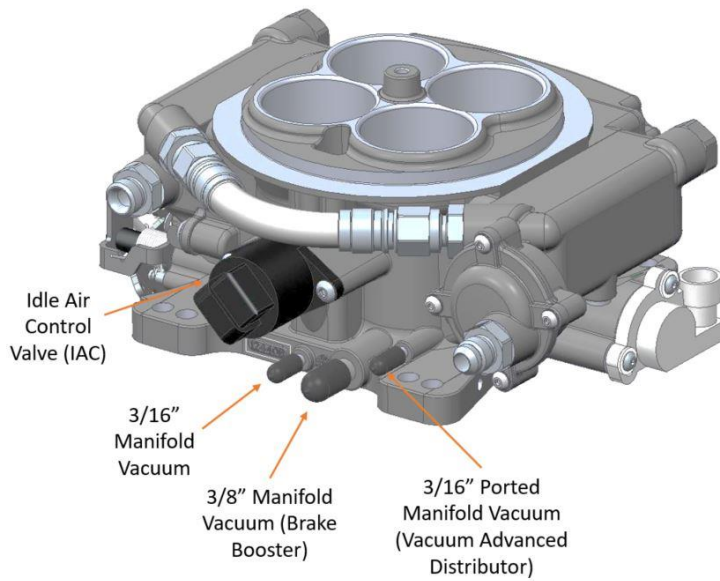

Figure 4
5. Reconnect the appropriate vacuum hoses to the Sniper EFI throttle body. **Be sure to plug any vacuum sources not used on both the Sniper EFI Throttle Body and on the Engine.** See Figure 4 for diagram of vacuum ports.